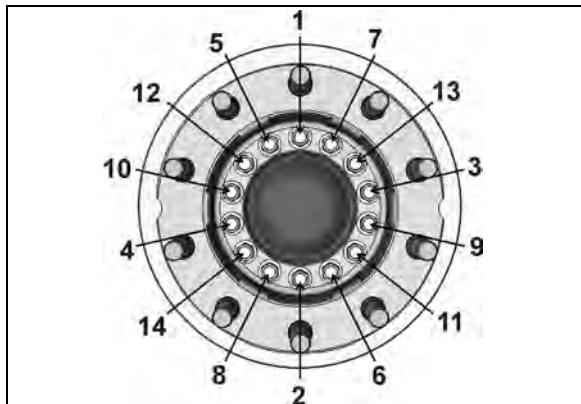

FIGURE 32 HUB FLANGE HEX CAP SCREW TIGHTENING SEQUENCE
- Secure hub flange and rotor to unitized hub bearing using 14 new cap screws (single-use only). Refer to Figure 32 for tightening sequence.